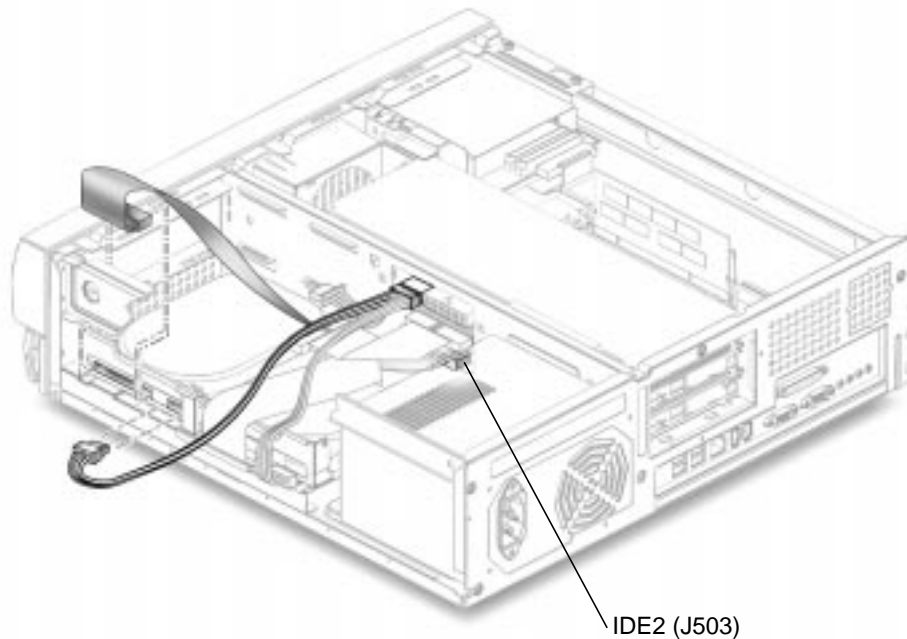

FIGURE 6-5 Removing and Replacing the Secondary IDE Cable Assembly
2. **Disconnect the secondary IDE cable assembly connector from the following (FIGURE 6-5):**
1. **Position the secondary IDE cable assembly into the chassis (FIGURE 6-5).**